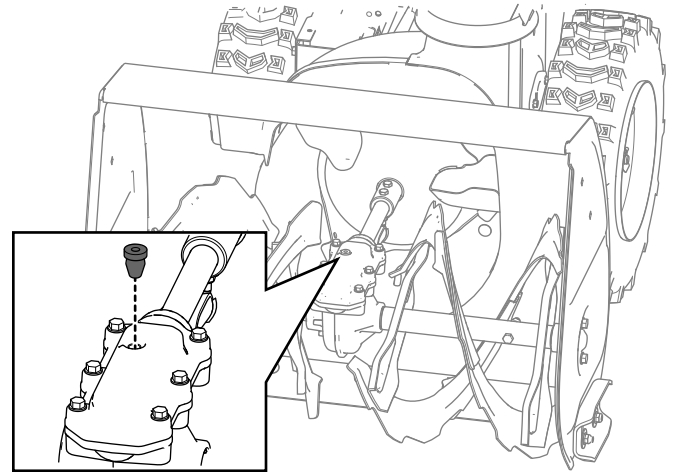

Figure 31
2. Clean the area around the pipe plug and remove the pipe plug from the gearbox (Figure 31).